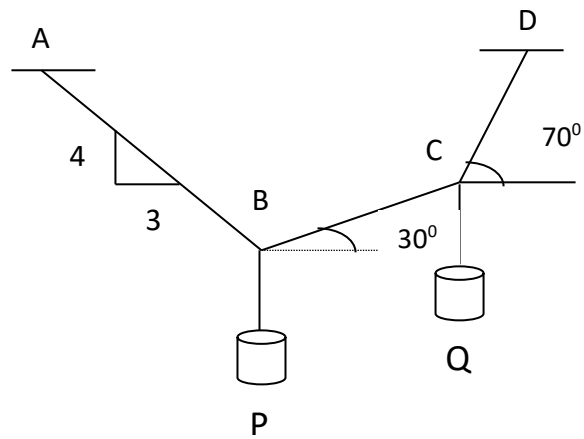
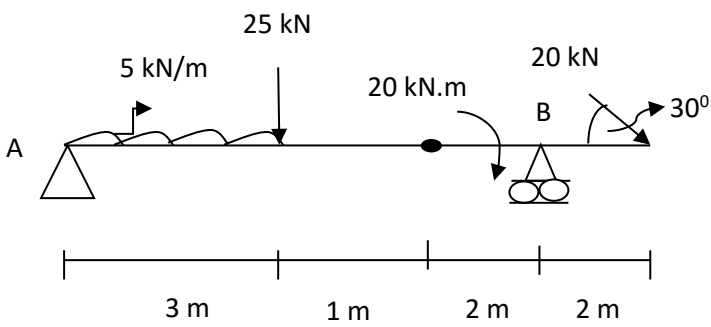

Figure 2
Figure 3
- b) Block P = 0.5 kg and block Q of mass m kg are suspended through a chord, which is in equilibrium as shown in Figure 2. Determine the mass of block Q. (6)
- 10 a) State the conditions of equilibrium for a set of coplanar forces. (3)
- b) Determine the support reactions at A and B for the beam loaded as shown in Figure 3. (7)
- 11 a) What is meant by a system of forces in space? Explain how the equations of equilibrium are expressed while dealing with forces in space. (3)
- b) Determine the resultant of system of concurrent forces having the following magnitudes and passing through origin and the indicated points. (7)